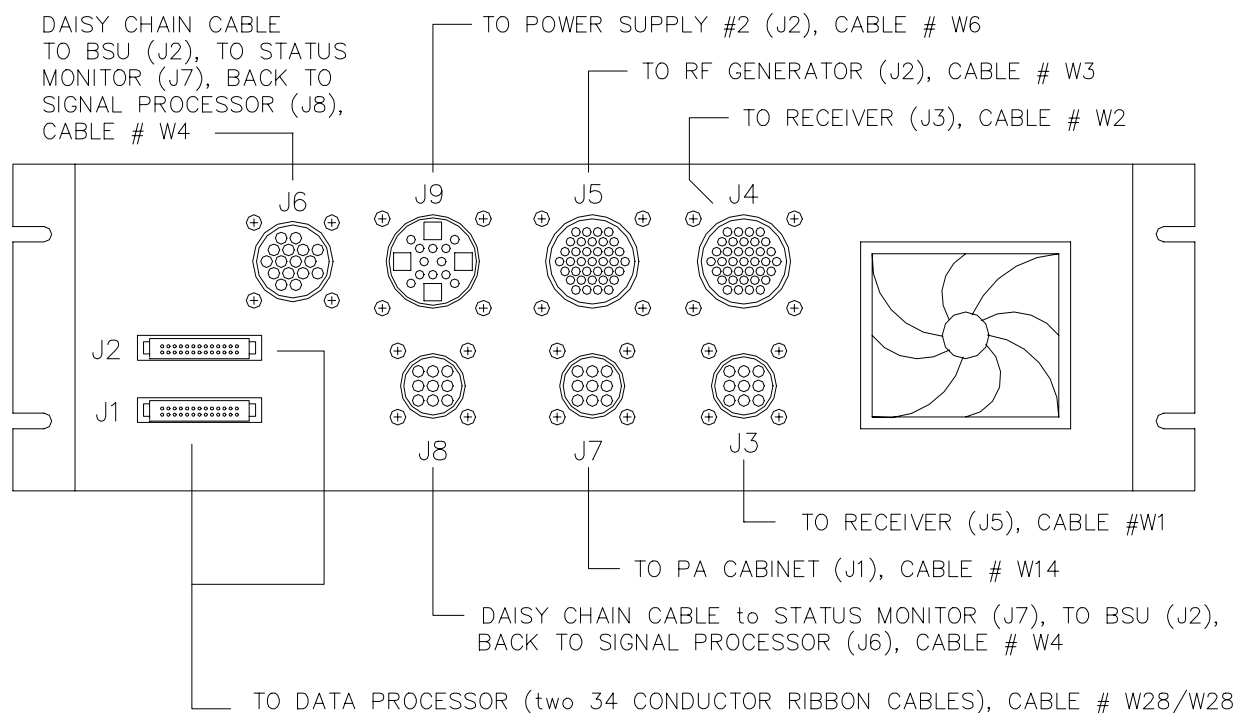

Figure 4-21 Signal Processor Rear Panel and Cable Connections
3. Unplug ribbon cables P1 and P2 from ports J1 and J2. Loosen the retaining nuts on plugs P3-P9, and disconnect them from ports J3-J9 on the rear panel of the Signal Processor (see Figure 4-21).